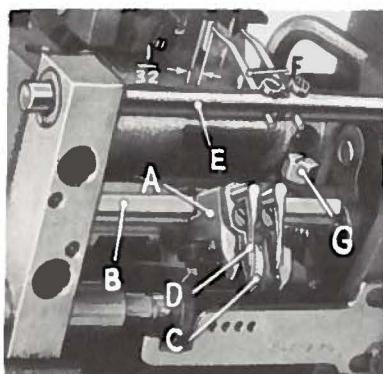
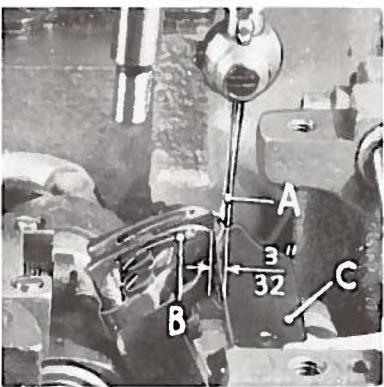
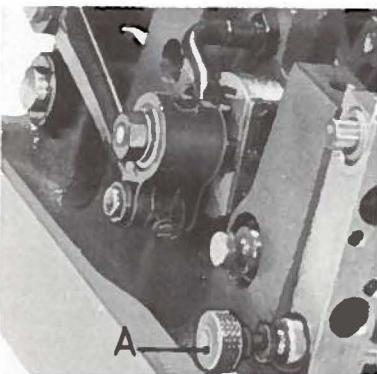
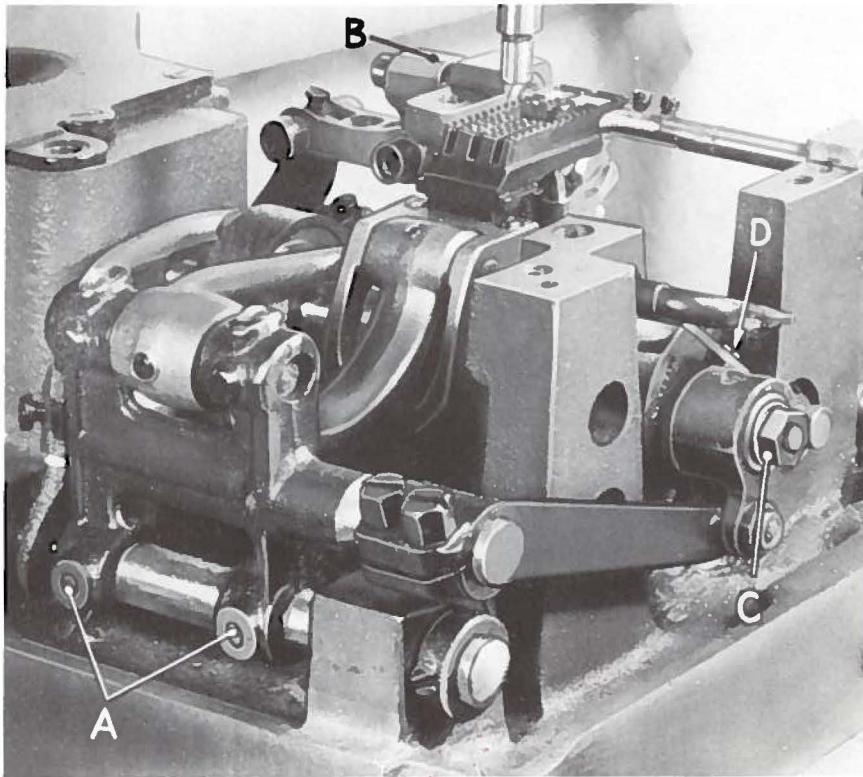

Fig. 6
Fig. 7
Fig. 9
Fig. 11
Assemble looper holder and stationary needle guard (A, Fig. 6) onto looper holder frame (B) and adjust the stationary needle guard so it is just brought up to the needle. Assemble the adjustable needle guard (C) and looper (D) onto looper holder and set so that the right edge of the looper is inline with the stationary needle guard. The distance between the stationary needle guard and the adjustable needle guard to be the same as the large shank section of a needle. Adjust proportionally smaller for smaller than size .049 or .054 needles.
Set looper holder frame (B, Fig. 6) so distance between centerline of needle (A, Fig. 7) and point of looper (B) is $\frac{3}{32}$ inch when needle is at the bottom point of travel. Accomplish this by loosening the hexagonal head clamp screw (G, Fig. 6) and moving the holder forward or backward as required and tighten screw. Looper gauge No. 21225- $\frac{3}{32}$ (C, Fig. 7) can be used advantageously in making this adjustment.
With looper points toward the operator, the loopers should be seated in looper holder as far down as they will go. Check to see that the loopers clear the underside of the retainer holder bar (E, Fig. 6) when released to the threading position. The loopers may be released to the threading position by pulling the looper holder frame locking pin (A, Fig. 9) to the left when the needles are at the high point of travel.
Fig. 6) in the retainer holder bar (E) with the tip of the notched end approximately $\frac{1}{32}$ inch from the needles when the needle bar is at the bottom of its stroke, the notch should be to the right and in a vertical position. Loosen screws in the retainer holder bar connection (B, Fig. 11) and rock the retainer bar so the underside of the retainer is as close as possible to the top of the looper without contacting. Turn the handwheel in the operating direction until eye of looper is directly below the point of the retainer. Then, move the retainer holder bar (E, Fig. 6) to the right or left so that the right side of the retainer is directly over the middle of the looper at the eye. Where larger than size .040 needles are used, the retainer should be set so the right side of the retainer is even with the right side of looper at the eye.
Draw looper and needle threads into the machine. When there are no threads in the machine, the loopers may be released into threading position by turning the handwheel until the needle bar is at high position and pulling the looper holder frame locking pin (A, Fig. 9) to the left. With threads in the machine, proceed in the same manner except hold the needle threads taut to prevent stitch formation while turning handwheel. Return loopers to operating position by pushing against looper holder frame, the needle bar being at its highest position.
Start operating on a piece of fabric. Set stitch to required length. To alter stitch length, loosen nut (C, Fig. 11) (it has a left hand thread) and turn screw (D) in head of main shaft until desired stitch length has been attained and tighten nut. Turning screw in a clockwise direction shortens the stitch and turning screw in a counter-clockwise direction lengthens the stitch. The travel of the needle bar should be changed to correspond to the travel of the feed dog and this is accomplished by loosening screw (A, Fig. 2) and sliding link (B) up or down until the movement of the feed dog and the needle bar are synchronized. Sliding the link upward shortens the travel of the needle bar and sliding it downward lengthens the travel of the needle bar.